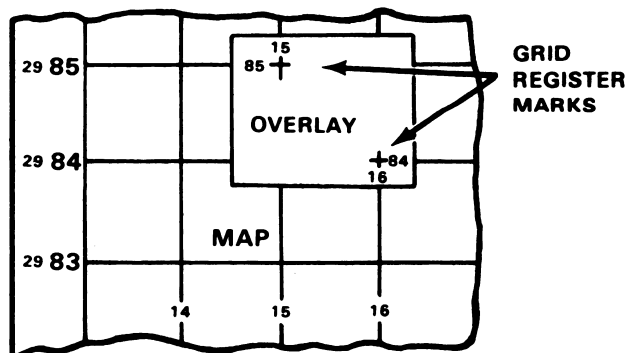

Figure 1. Registering the overlay.
c. Place the overlay on the map so that the grid register marks fall exactly on top of the grid intersections (figure 1).